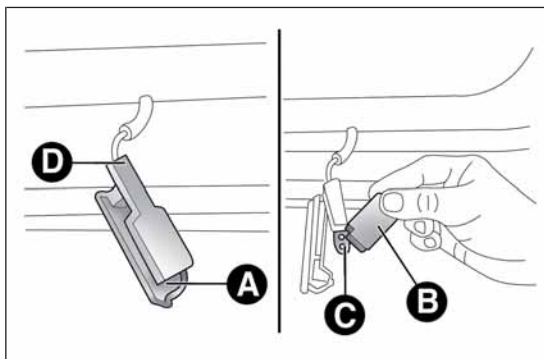

fig. 148
- open the door and remove the roof light by pushing on clip A fig. 148 with a screwdriver;
- press the sides of protection B fig. 148 near the two fixing pins and replace bulb C;